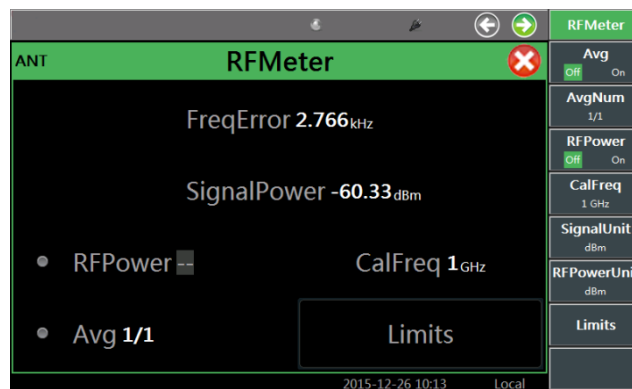

Fig. 4-7 Received Signal Strength Measurement Window
- Window opening: open the RF meter window by pressing the [Transmitter] hard key or pressing the [Measurement] hard key and setting the instrument menu. Select the window, and press the [Full Screen] hard key in the lower part of the screen to maximize the window, as shown in Fig. 4-7.
- Menu calling: click the touch screen, select the RF meter as the current active window, and the corresponding menu will be displayed in the right side of the window, as shown in Fig. 4-7.